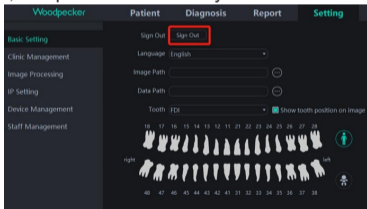

Figure 50
(1) In case of unclear image, please adjust the exposure time first. If repeated adjustment of the exposure time is invalid, you can go to the software "Setting" -> "Device Management" to set the sensor parameters.
(2) During the use of the software, when the server is unavailable due to some reasons, the software will enter the server disconnect interface, as shown in Figure 50. At this time, the user can check whether the network is normal or restart the server.